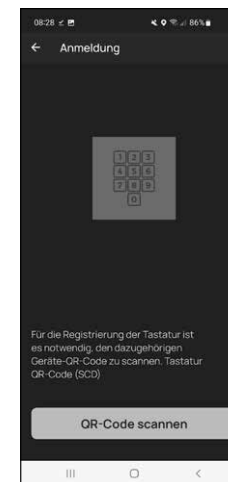

Fig. 7
- A prompt will appear asking you to scan the QR code for the keypad provided using your smartphone camera. The QR code is on the QR code sticker enclosed in the packaging (Fig 7.).
- Tap on "Scan QR code" (Fig. 7). You may be asked to confirm the app's access to the camera.